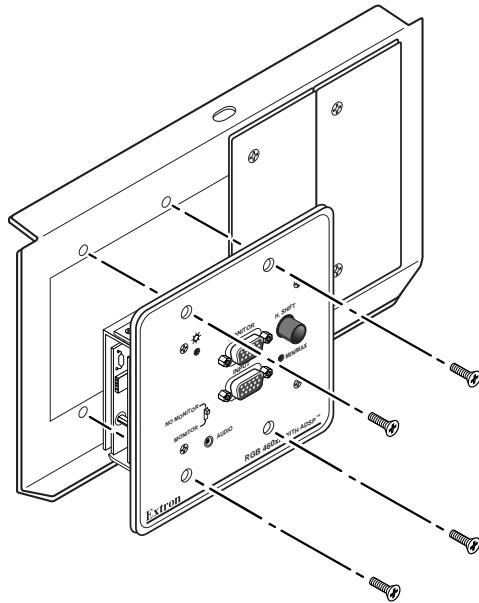

Figure 2 — Securing the device to the face plate, SC-AFM8 only
4. For the SC-AFM8 adapter plate only, secure the device(s) to be installed to the front of the faceplate with machine screws (figure 2).